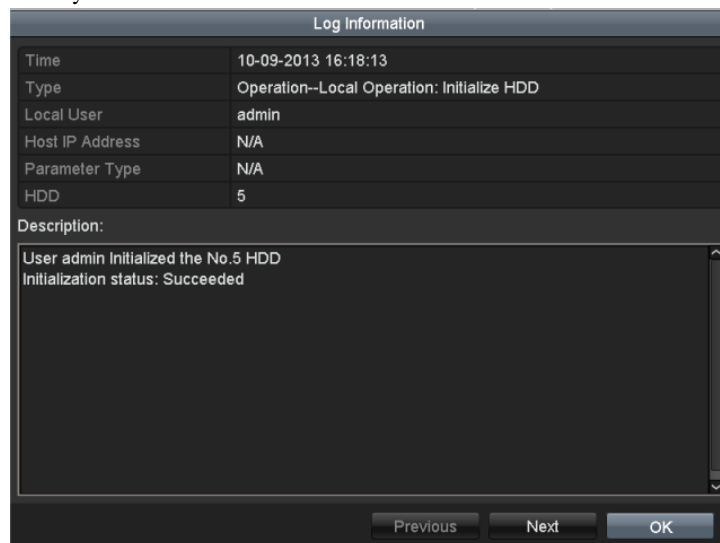

Figure 13.9 Log Details
5. You can click the  button of each log or double click it to view its detailed information, as shown in Figure 13.9. And you can also click the  button to view the related video files if available.